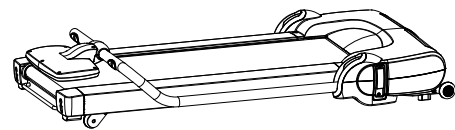

FIG 1.
1. Remove your treadmill from the carton as shown in FIG 1.